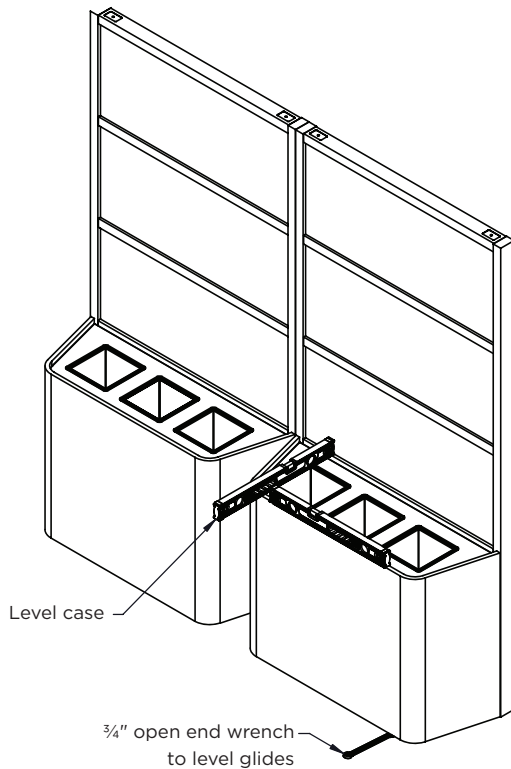
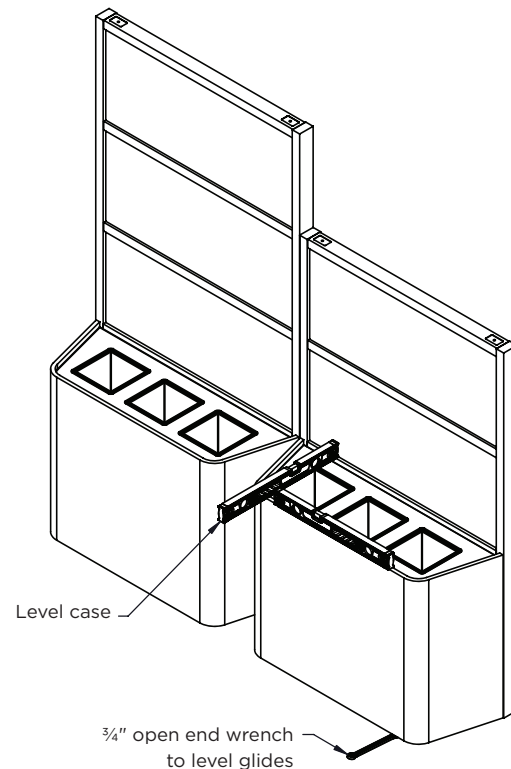

Figure 4B
Figure 4C
**Note:** Reference Figure 4B for 90"h to 90"h planters and Figure 4C for 90"h to 72"h planters